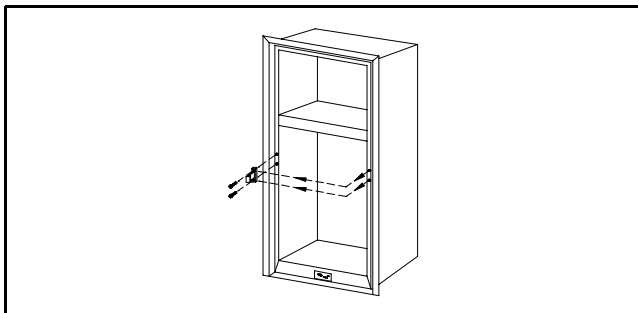

Figure 11
8. Remove both travel latches by taking out the two screws holding each to the refrigerator. Use the #2 phillips screwdriver. Remove the two hole plugs from each of the corresponding holes on the opposite side of the refrigerator. Relocate them in the two holes just exposed by the removal of the latches. Using the two screws, attach each latch in the new position so the tab points towards the opposite side of the refrigerator. Do not tighten screws completely. (See Figure 11)